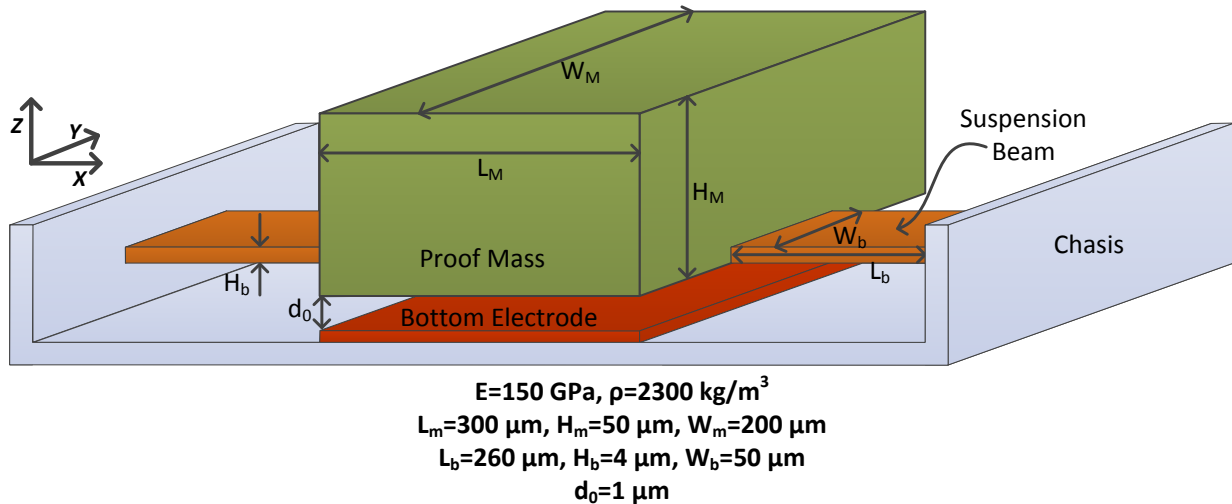

Figure PS1-1
- Scaling to microscopic dimensions often provides benefits in some performance characteristics, but can also degrade others. To investigate, this problem explores the behavior of the simple accelerometer shown in Figure PS1-1 as all its dimensions are scaled by a factor of $(1/2)\times$, where the scaling factor indicates the number that multiplies the original value. (In other words, L scaled by a factor of $(1/2)\times$ means the new $L_{new} = (1/2)\times L$.)
where E is the Young's modulus of the structural material, and dimensions are given in Figure PS1-1. What is the total z -direction stiffness at the proof mass location before scaling? What is the stiffness after all dimensions are scaled by $(1/2)\times$?